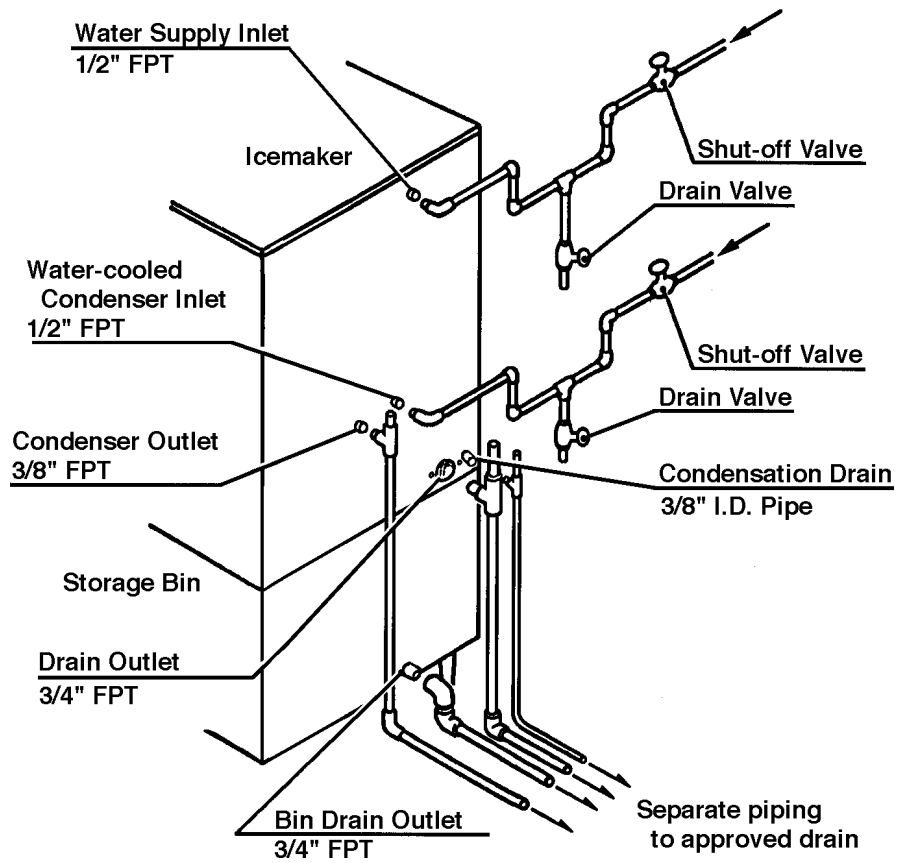

Fig. 4
## 6. WATER SUPPLY AND DRAIN CONNECTIONS - See Fig. 4
- 8) Close the Water-cooled Condenser Water Supply Line Shut-off Valve. See Fig. 4.
- 4) Close the Potable Water Supply Line Shut-off Valve and open the Potable Water Supply Line Drain Valve. See Fig. 4.